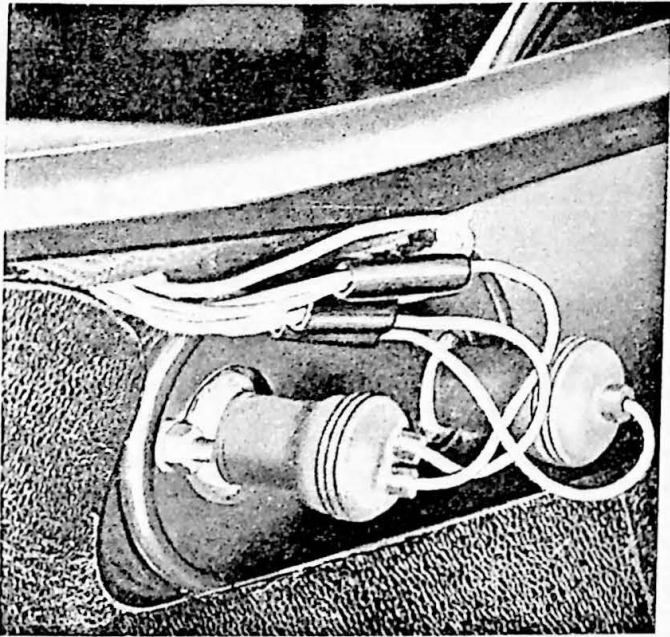

Fig. 10-70. Rear light coupling contacts
3. Disconnect the leads at the connecting pieces, see Fig. 10-70.